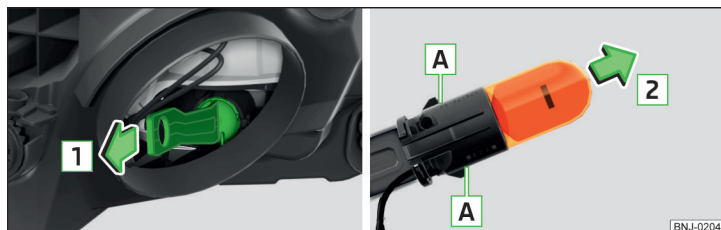

Fig. 214 Changing the bulb for the turn signal light
- Remove the bulb holder with the bulb by jiggling it out in the direction of the arrow **1** » Fig. 214.